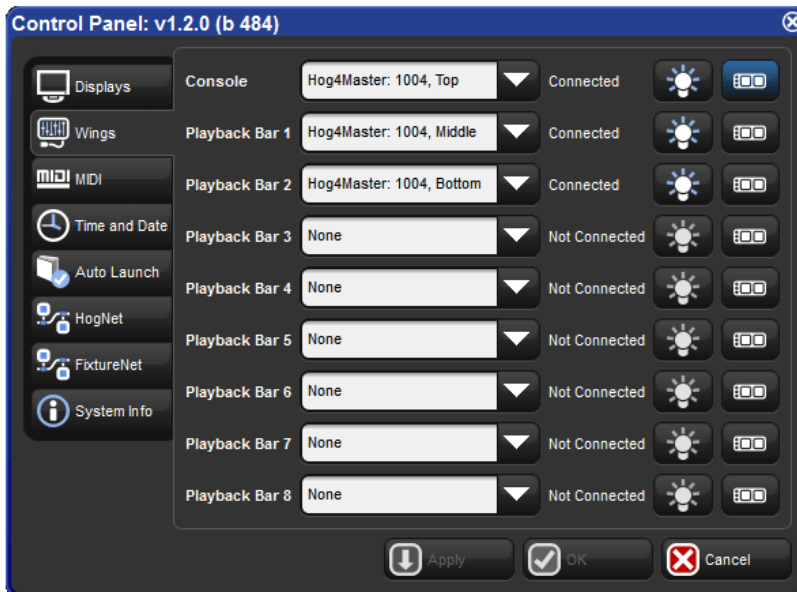

Figure 3.15. The Wings pane of the Control Panel with Master Wing mappings
2. Setup → Control Panel → Wings : open the Wings pane of the Control Panel window (see Figure 3.15, "The Wings pane of the Control Panel with Master Wing mappings").